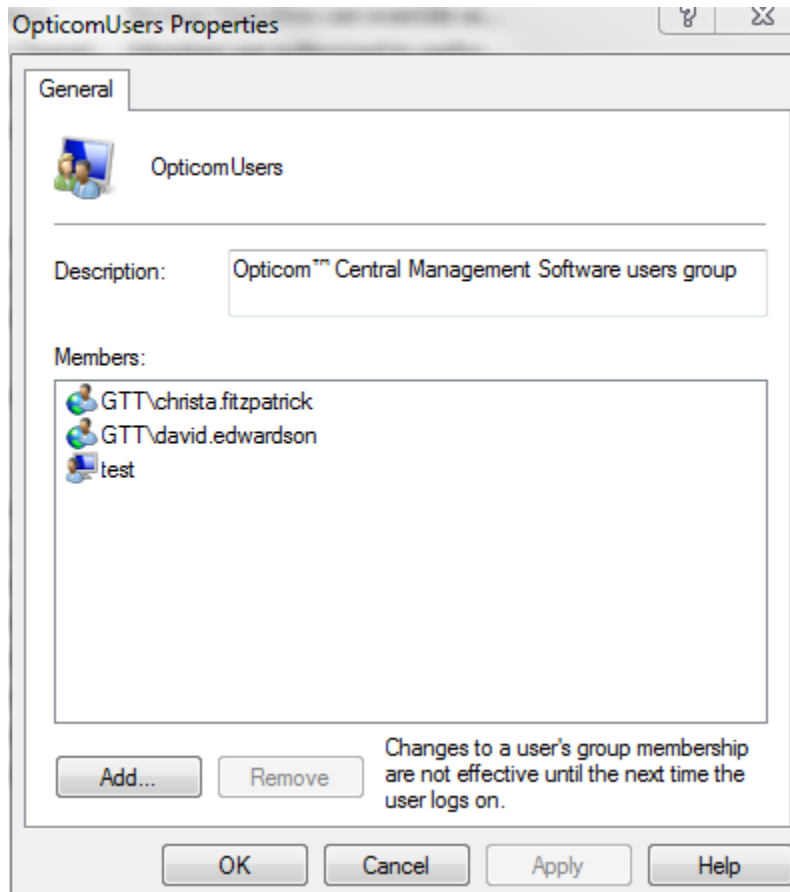

Figure 3-18
2. Press the **Add** button. See Figure 3-18.